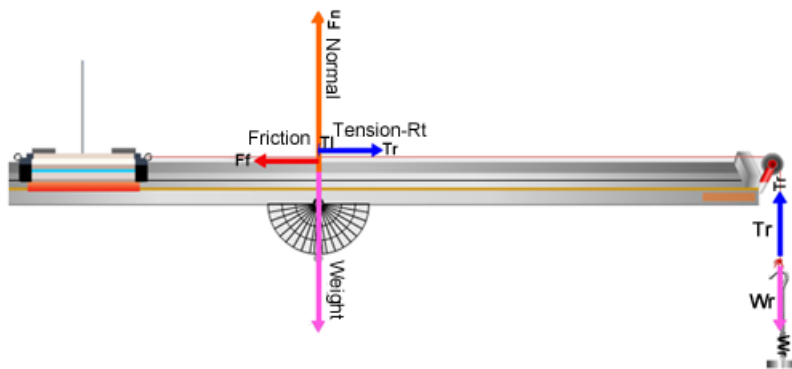
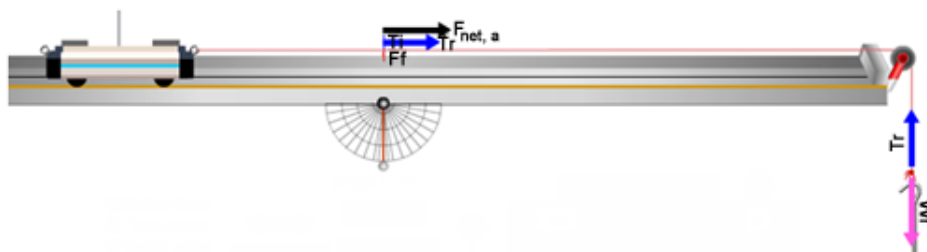

Figure 4: Dynamic Vectors
Figure 5: The Net Force
You should now see something like Figure 4. (Some extra labels have been added for clarity.)
represent equal magnitude forces acting on the objects the string is attached to. Make sure that you see how that's represented in Figure 4.
- In Figure 5, we might consider the cart and hanger as a system and then consider the net, external force on that system, and the mass of the system.
In Figure 4, the cart-hanger system remained at rest because of the brake which exerts a friction force, \mathbf{F}_f , which changes to match any amount of weight that can be added to the hanger. When you release the brake the vectors should change to look like Figure 5. Try it at few times. There is now a net force, so there will be an acceleration. Try turning the brake on and off and notice how the forces change. You can also just hold and release the cart with the mouse. You're sort of acting like a brake but no vector will be shown to represent this.